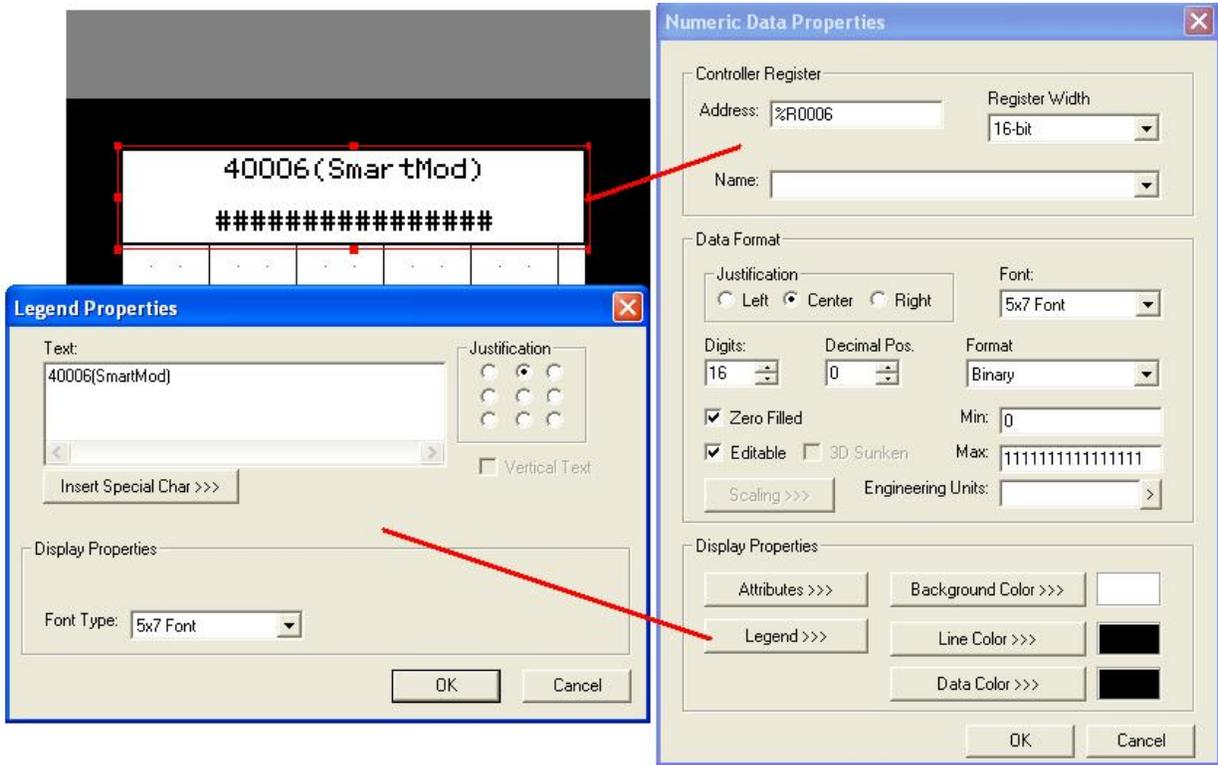

Fig.8
11. Select Numeric Data button 123 then click and drag an area on the XLt screen. Double click the field and set up the data (Fig.8)